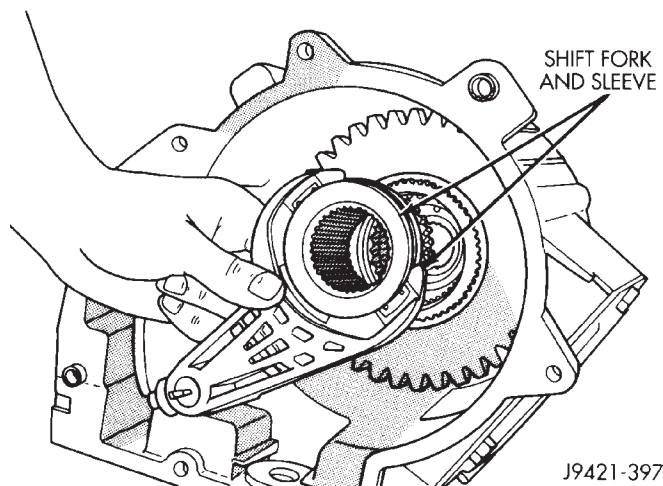

Fig. 34 Shift Fork And Sleeve Removal
(20) Remove shift fork and shift sleeve as assembly (Fig. 34).